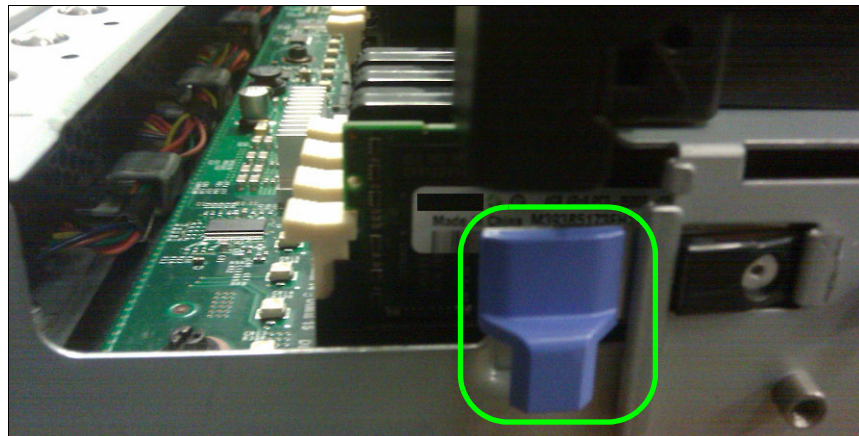

Figure 7-13 Final release tab for removing the MAX5 memory tray
4. You can then pull the memory tray out about 30% before it stops. This design allows you to get a better grip on the tray on either side and then use your fingers to push in another set of blue release tabs on either side of the tray, as shown in Figure 7-13.